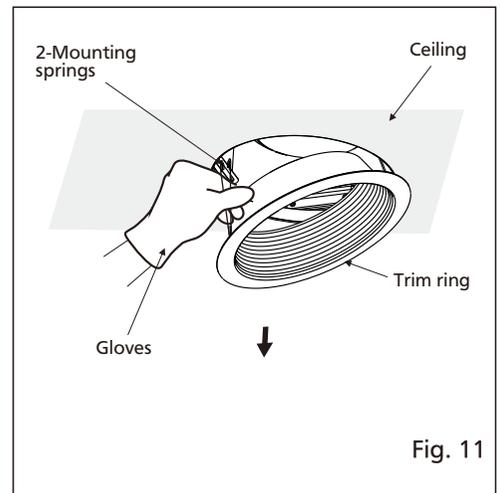

Fig. 11
1. Remove the trim ring by pulling down the mounting springs. (Squeeze mounting spring and pull down carefully.) (Fig. 11)
1. Remove the trim ring by pulling down mounting springs. (Squeeze mounting spring and pull down carefully.) (Fig. 11 of page 9)